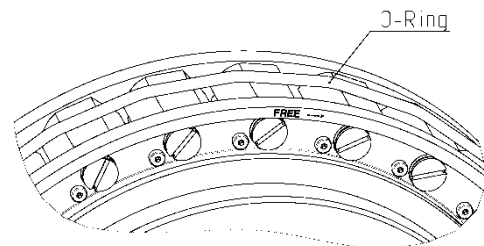

Figure 5: Clamp bodies “after lift-off“
- Lift the inner race (2) including the cage (8) out of the outer race (1). Use appropriate lifting gear at the threaded hole of the inner race for this.
- Secure (see Fig. 5 and 6) the clamp bodies in lift-off position (against the spring force) using an O-ring / cable connector as an assembly aid.
- Insert the inner race (2) with cage (8) into the outer race (1) until half of the clamp body is covered.